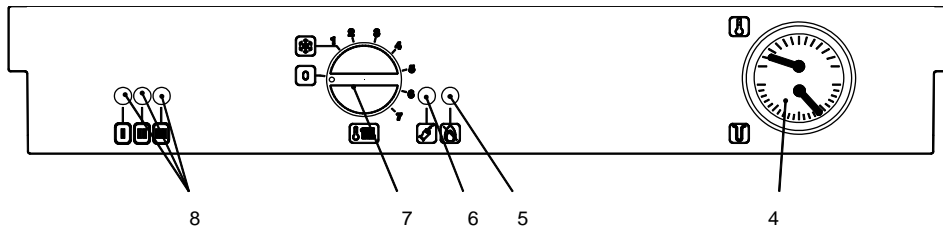
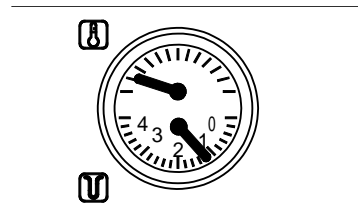

Figure 3.2
Figure 5.1
Three lights (8 in Fig. 3.2) give detailed indication regarding the operation of the boiler. The following table gives the relationship between each of the possible light combinations and their meaning.
- Ensure that the Central Heating circuit is regularly filled with water checking that the pressure indicated on the temperature and pressure gauge (4 on figure 3.2) is not lower than 1 bar (14.5 psi) as shown on figure 5.1.
- The temperature and pressure gauge (Fig. 5.1 on page 12) will allow you to check that the set temperature is obtained.
- You should check that the pressure on the temperature and pressure gauge (Fig. 5.1 on page 12) is not below the correct setting.
If the pressure on the temperature and pressure gauge (Figure 5.1 on page 12) has gone down:
- Check on the temperature and pressure gauge (figure 5.1 on page 12) that the pressure in the central heating circuit is not close to 3 bars (43.5 psi). In this case, temperature rise in the circuit can cause the pressure relief valve to open.